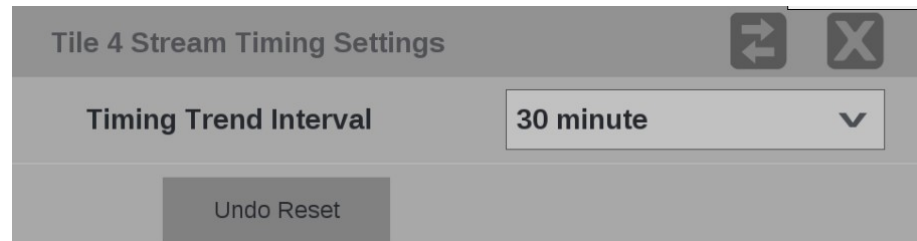

Figure 165: Stream Timing application settings menu
**Trend Interval.** Use the drop-down menu to change the interval to 1 minute, 5 minute, 10 minute, 30 minute, 1 hour, 3 hour, 6 hour, 12 hour, or 1 day. (See Figure 165.)